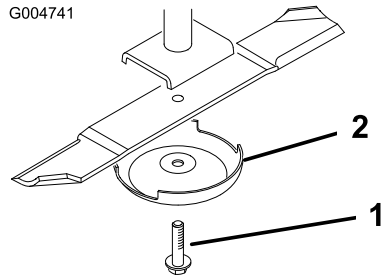

Figure 86
2. Grasp the end of the blade using a rag or thickly padded glove. Remove the blade bolt, anti-scalp cup, and blade from the spindle shaft (Figure 86).